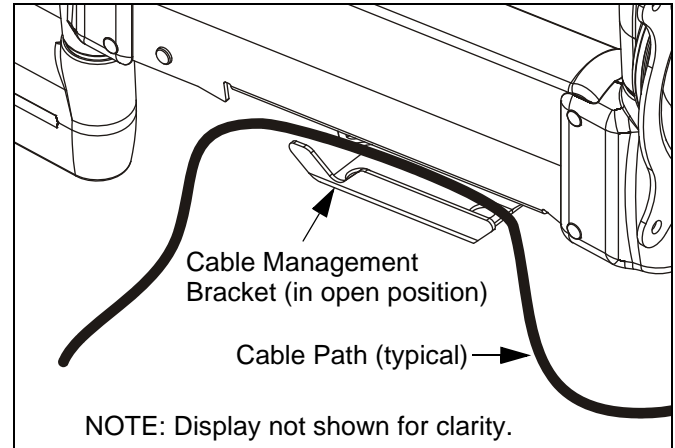

Figure 22: Height Adjustable Arm - Cable Path
3. Carefully insert cables into bracket (See Figure 22).